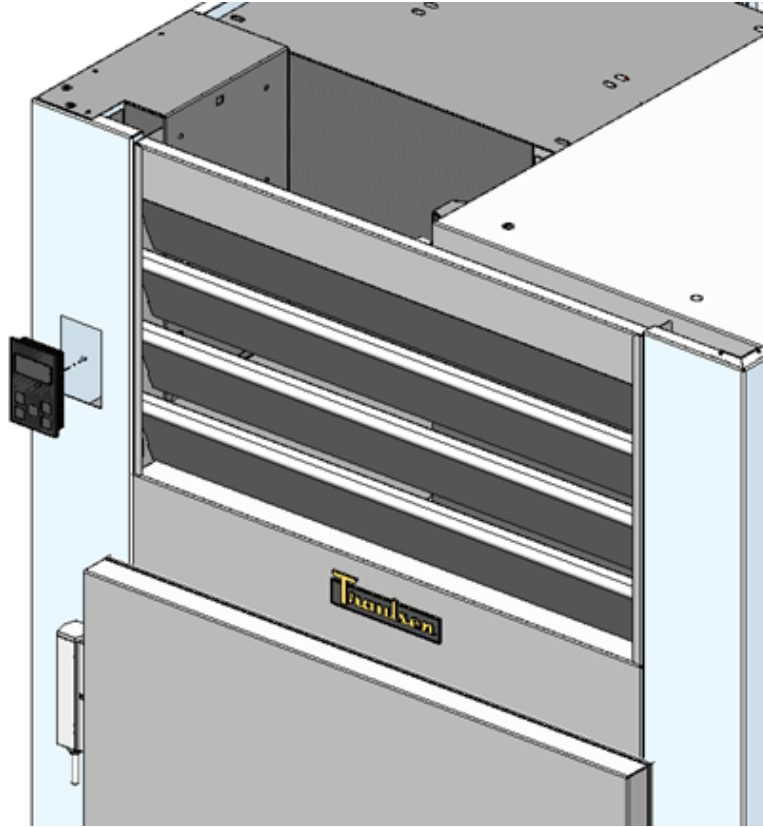

Fig. 4.12.1 DISPLAY REMOVAL
Remove bottom louver screws & rotate louver up out of the way. Disconnect cable from the back of the controller. Lastly, squeeze the (4) tabs holding on the back side of the display & push outward to remove the display. See figure 4.12.1.